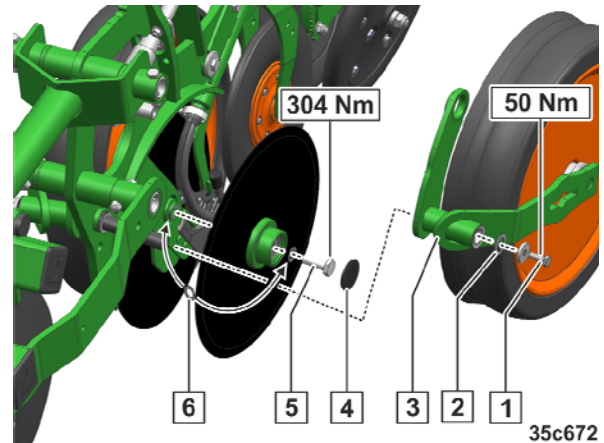

Fig. 312
1. Loosen the bolt (Fig. 312/1) and remove it.
2. Dismount the support roller bracket (Fig. 312/3) with support roller.
3. Pay attention to the number of spacer discs (Fig. 312/2).
4. Remove the dust caps (Fig. 312/4).
5. Unscrew and remove the central bolts (Fig. 312/5).
- Remove or add spacer discs (Fig. 312/6) as required.